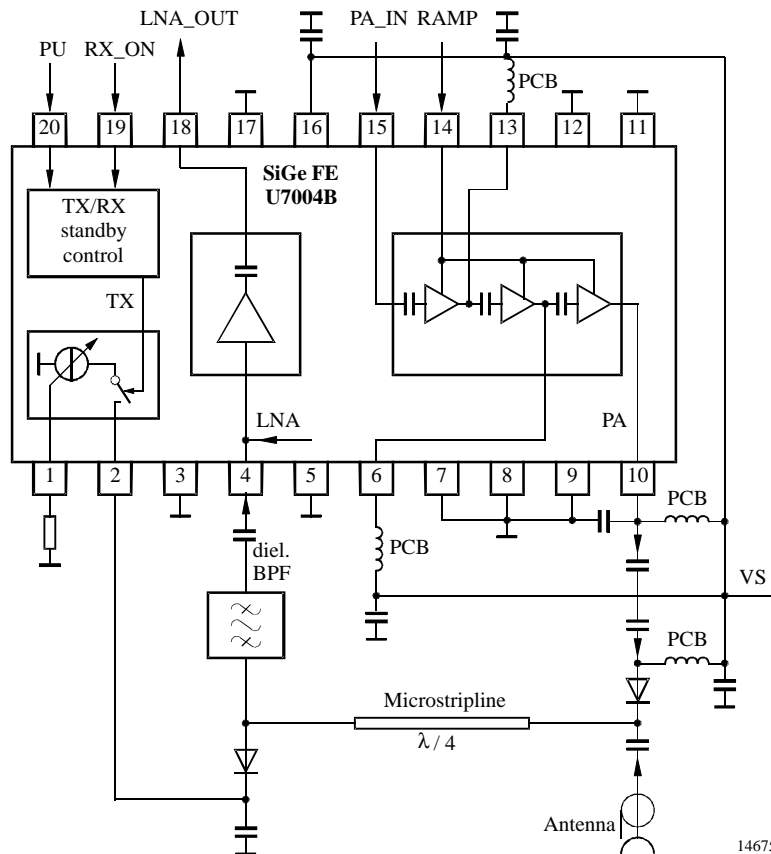

Figure 13. Typical schematic
2) With external matching network (see figures 13 and 14)